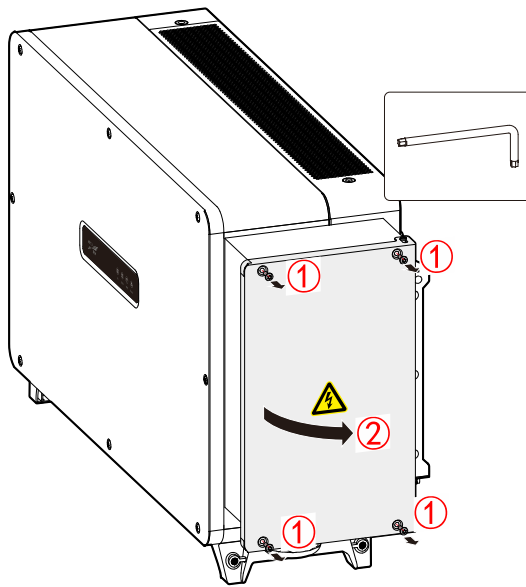

Figure3-30 Dismantle the right cover of the wiring box
- Step 1 Dismantle the right cover of the wiring box by wrench, as shown in Figure3-30.